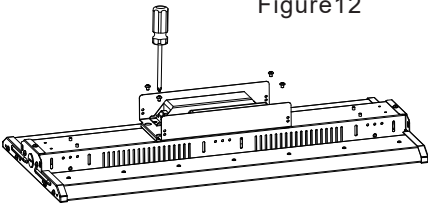
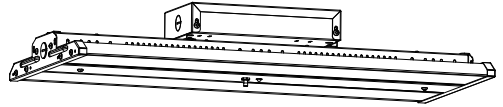

Figure14
Figure15
- Step 2: Open the cover of the backup driver box, install the backup driver box at the corresponding position on the back of the fixture (figure 14) and connect the wires correspondingly according to the marking instructions on the wire. Mount the buttons and indicators of the backup driver onto the front cover of the fixture (figure 15), then fix the cover to the fixture.